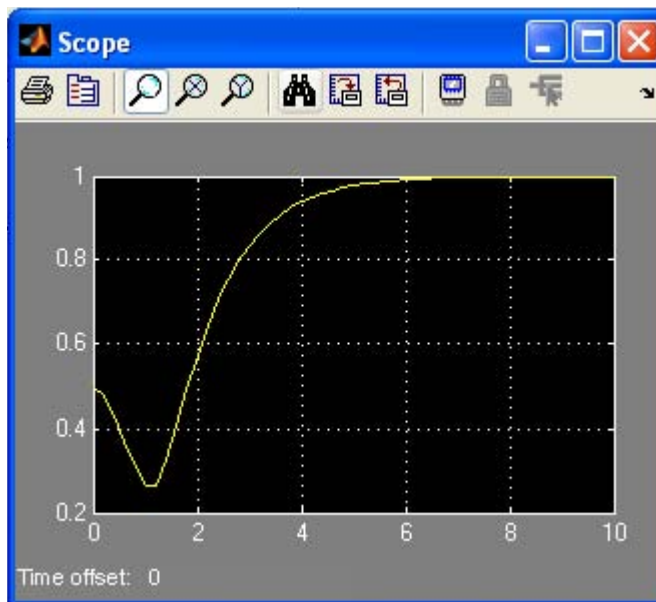

Figure B.13. The waveform for the function  $v_C(t)$  for Example B.1
9. To see the output waveform, we double click on the **Scope** block, and then clicking on the Autoscale  icon, we obtain the waveform shown in Figure B.13.